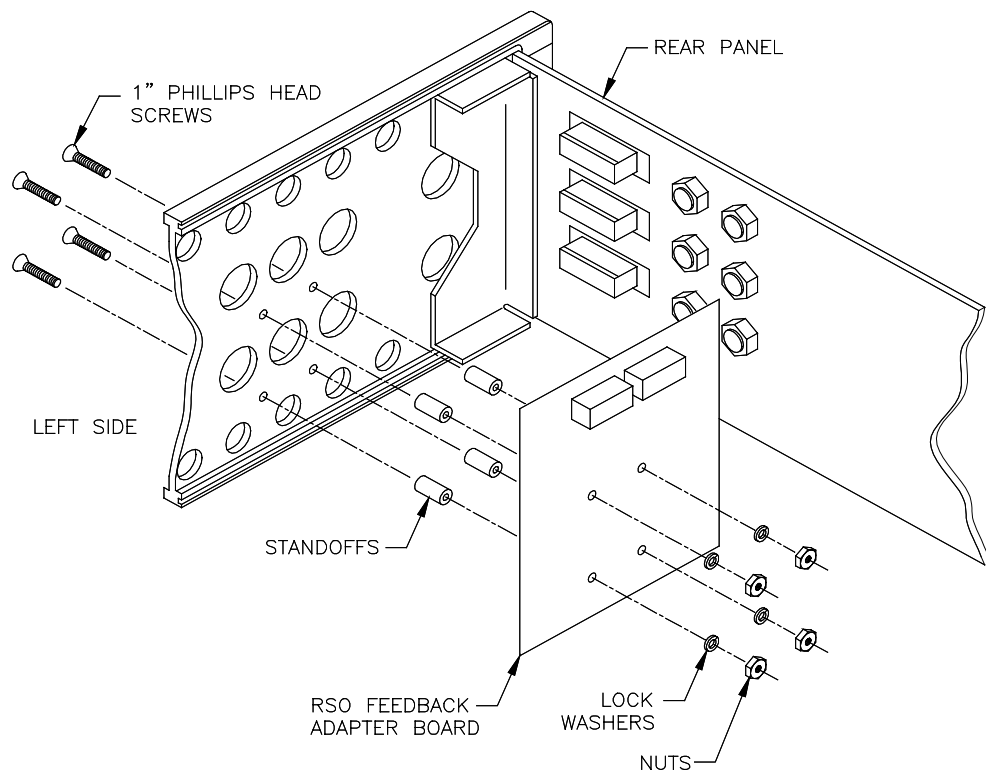

Figure 5. Installing the RSO feedback adapter board in the 1822.
4. From the outside, insert 1" Phillips-head screws into the four countersunk holes on the left side of the 1822 chassis (looking from the front of the unit), as indicated in **Figure 5**.
5. Screw standoffs from the feedback adapter board kit onto each of the four screws and tighten them (**Figure 5**).
6. Place the RSO feedback adapter board onto the screws, as shown in **Figure 5**, with the component side facing the interior of the 1822.
7. Place a lock washer and nut on each screw and tighten to secure the board in place (**Figure 5**).